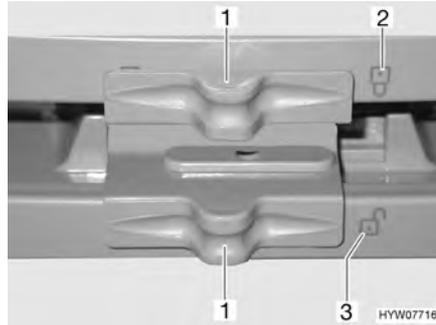

Fig. 160 Locking of the refrigerator door/freezer compartment door (Dometic 7 series with separate freezer compartment)
- Push the lock (Fig. 160,1) to the side, so that the open lock "🔓" (Fig. 160,3) is completely visible.
- Push the lock (Fig. 160,1) to the side, so that the closed lock "🔒" (Fig. 160,2) is completely visible.